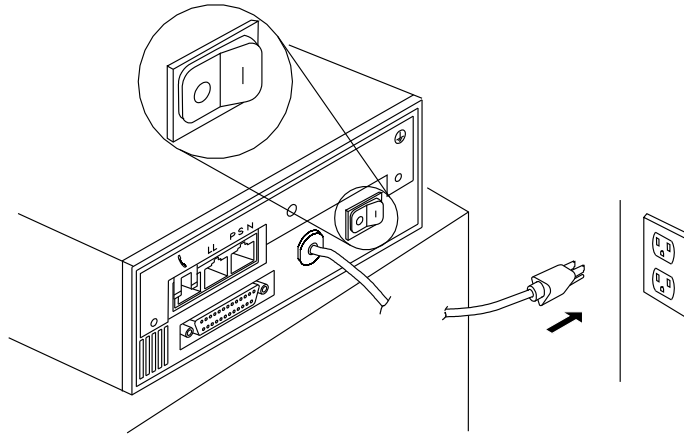

Figure 1-91. Connecting ac Power
1. ____ **Be sure** that the **power switch** located on the modem's rear panel is **off** as shown in Figure 1-91 on page 1-81.